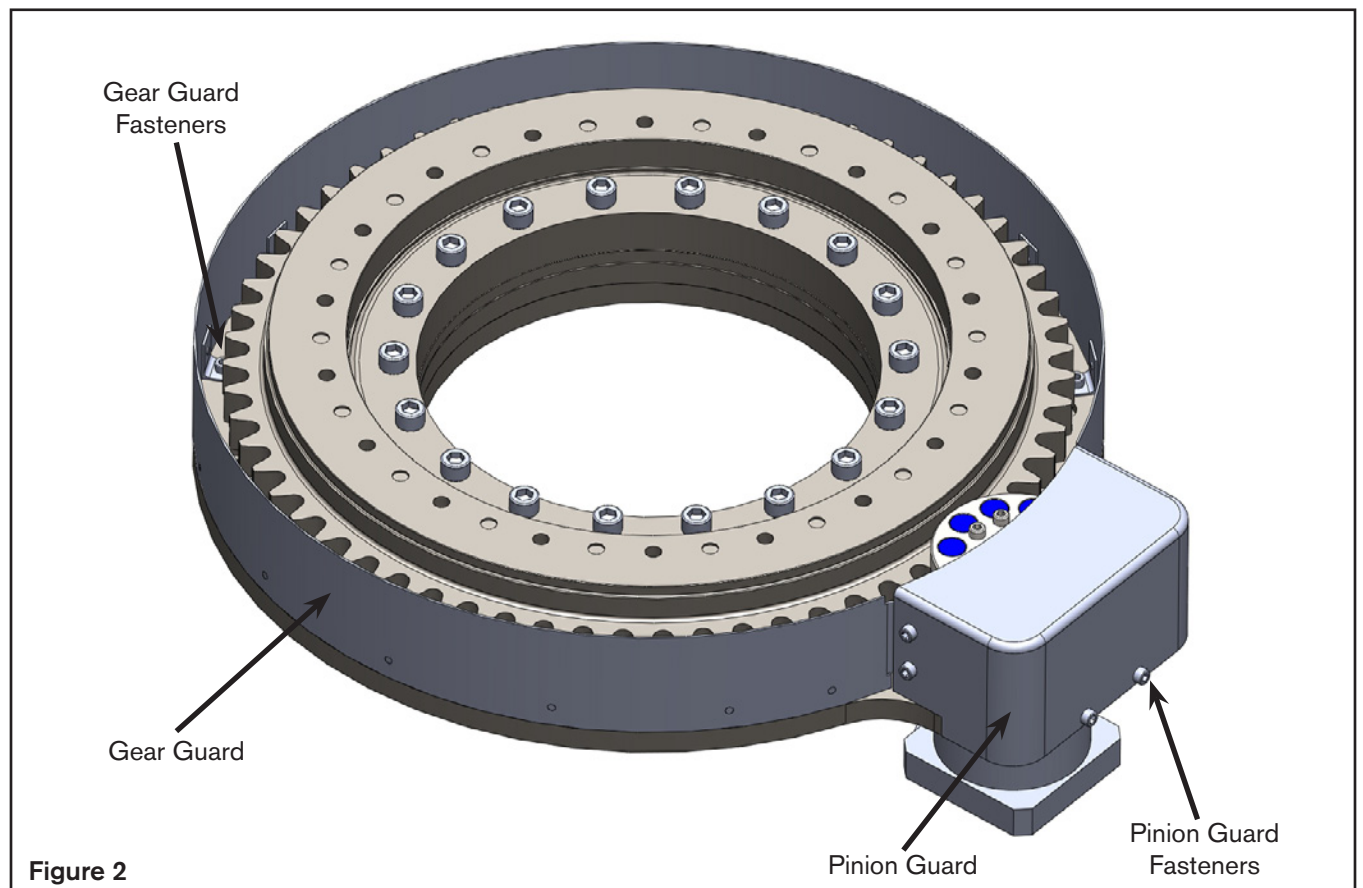

Figure 2
1. First remove the pinion guard by removing the six M6 fasteners. See Figure 2.
2. To remove the gear guard, the multiple M6 fasteners are accessible around and between the gear teeth from the top. See Figure 2. Take extreme caution near the gear teeth as they may be damaged by contacting them with a tool.